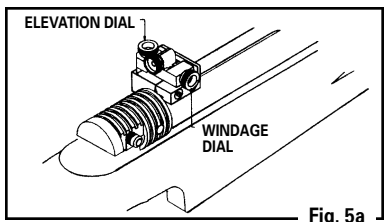

Fig. 5a
**Model RM577/RM777/RM522/RM622:** The rear sight can be adjusted to shoot higher or lower (elevation). Loosen the elevation slide lock knob by turning it counterclockwise. Then, turn the elevation knob counterclockwise to make the pellet hit higher on the target. Move the elevation knob clockwise to make the pellet hit lower on the target. Then, lock the elevation slide in place by turning the elevation slide lock knob clockwise. (Fig. 5a)
The rear sight can also be adjusted to shoot right or left (windage). Turn windage knob counterclockwise to make the pellet hit to the left on the target. Turn the windage knob clockwise to make the pellet hit to the right on the target. (Fig. 5a)